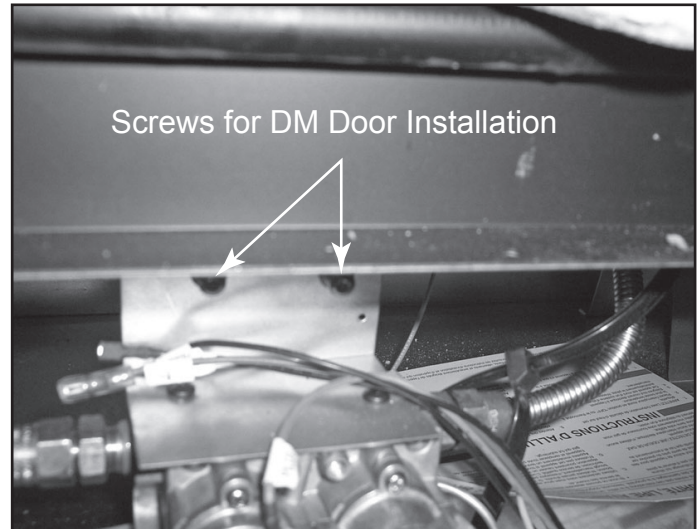

Figure 14.25 Pins & Screws for DM Door Installation - Reveal
- DM1036 or DM1042 door installation on the RBV4236 or RBV4842 requires longer pins. The longer pins and screws to attach them are located on the valve bracket of the appliance. See Figure 14.25.